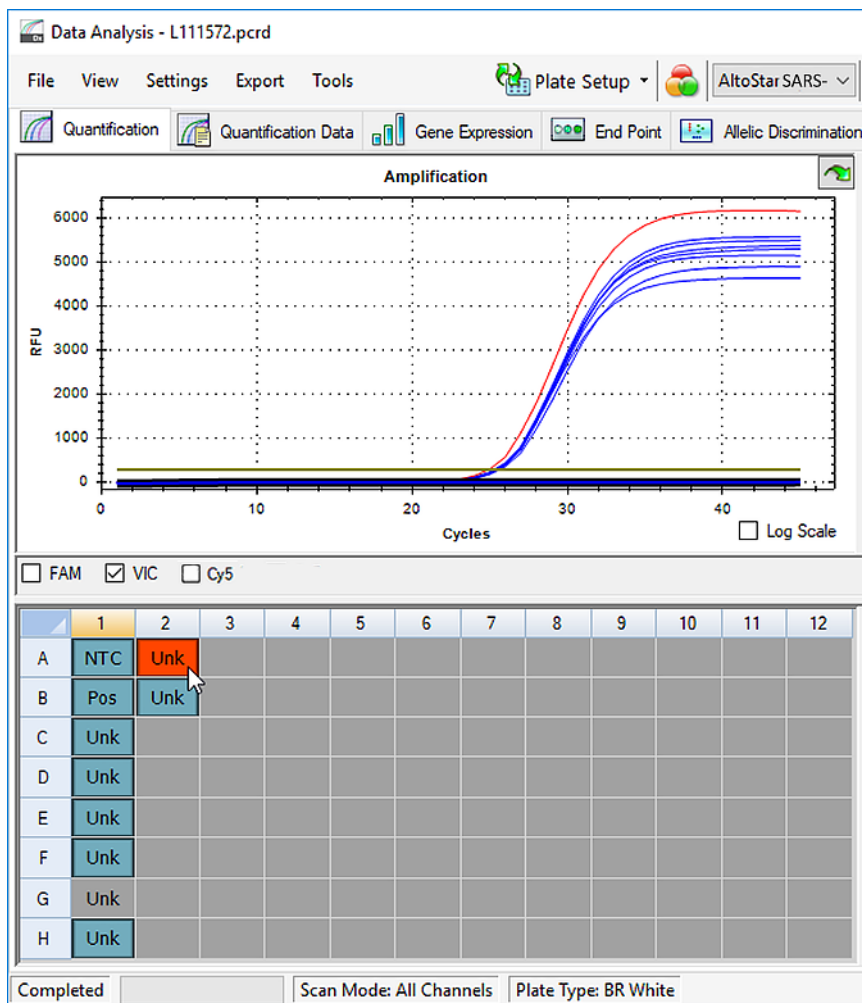
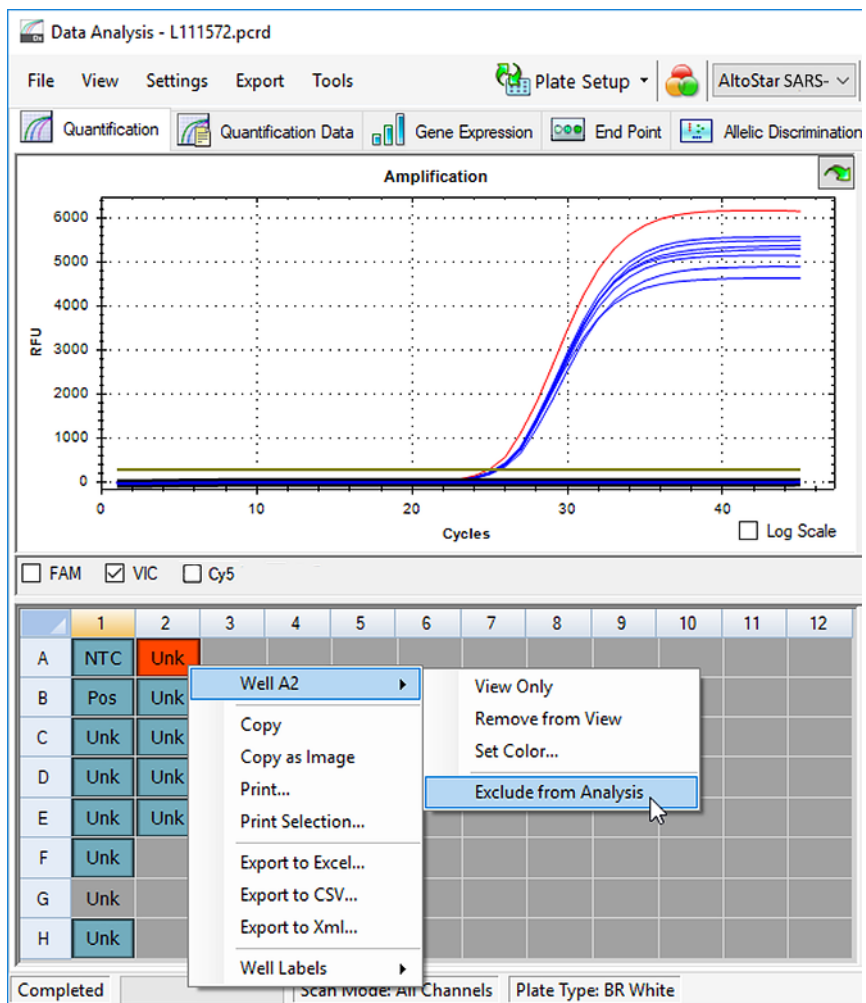

Figure 41: Data Analysis window: Well to be excluded
Figure 42: Data Analysis window: Exclude Well from Analysis
3. Click each well to be excluded with the right mouse button and select **Well... → Exclude from Analysis** (see Figure 41 and Figure 42).